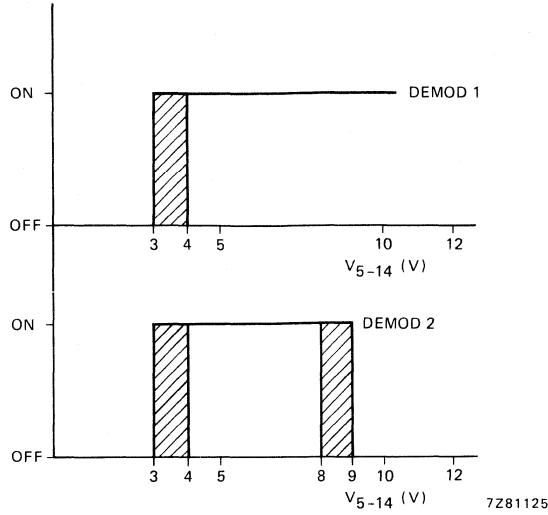

Fig. 2 Mute function.
5. In the MUTE state the a.f. output level attenuation is more than 60 dB. The MUTE function is only guaranteed for an r.m.s. value of the input voltage lower than 60 mV. See also Fig. 2.